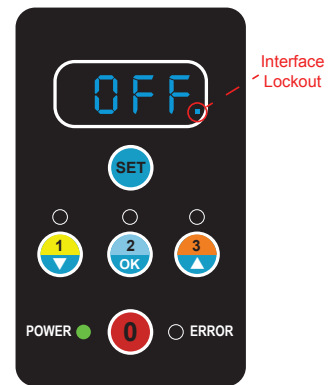

Figure 4
- When the user interface is locked, there will be a dot “.” in the lower right corner of the LED display. (See Figure 4)